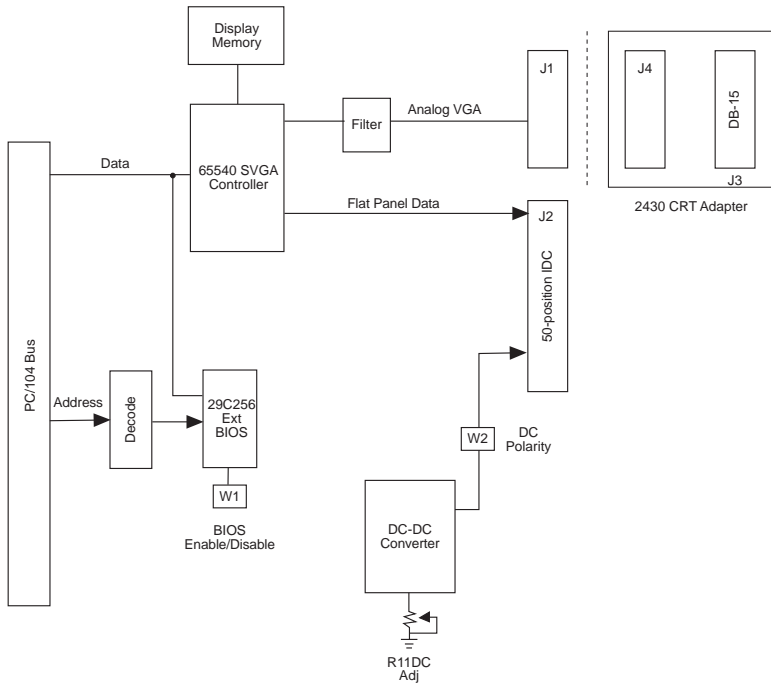

Figure 2—2430 Functional Diagram
5. Refer to Figure 2 for a functional diagram of the 2430 card.